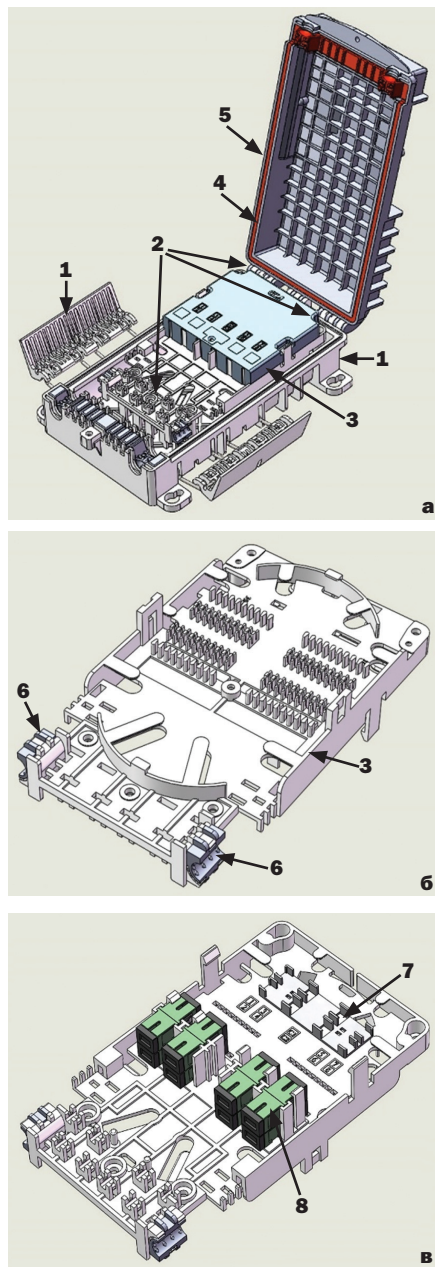

Figure 1
Fastening in the OK and SCO cross coupling is carried out on the outer (or inner) shells using clamps or ties. The appearance of the cross-coupling is shown in Figure 1.
1.3 Installation of the optical cable is carried out on the insert (Figure 1, position 3), outside the coupling in a place convenient for work (on the table).
Remove the insert from the housing by unscrewing 3 fixing screws (Figure 1, position 2), remove the cover from the insert. Place the insert on a flat, horizontal surface.